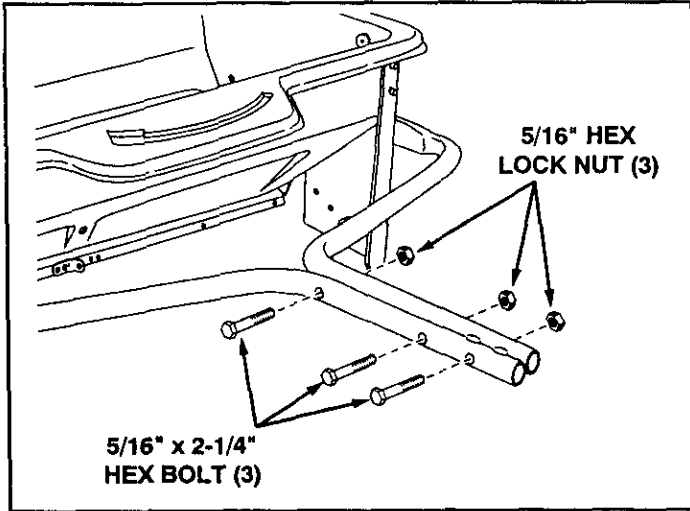

FIGURE 4
- Fasten the hitch tubes together using three 5/16" x 2-1/4" hex bolts and 5/16" hex lock nuts. **Do not tighten yet.** See figure 4.